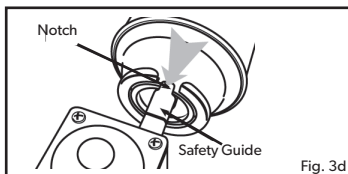

Fig. 3d
- Connect the cartridge in a horizontal position and ensure that the notch is in line with the safety guide (as shown in Fig. 3d).